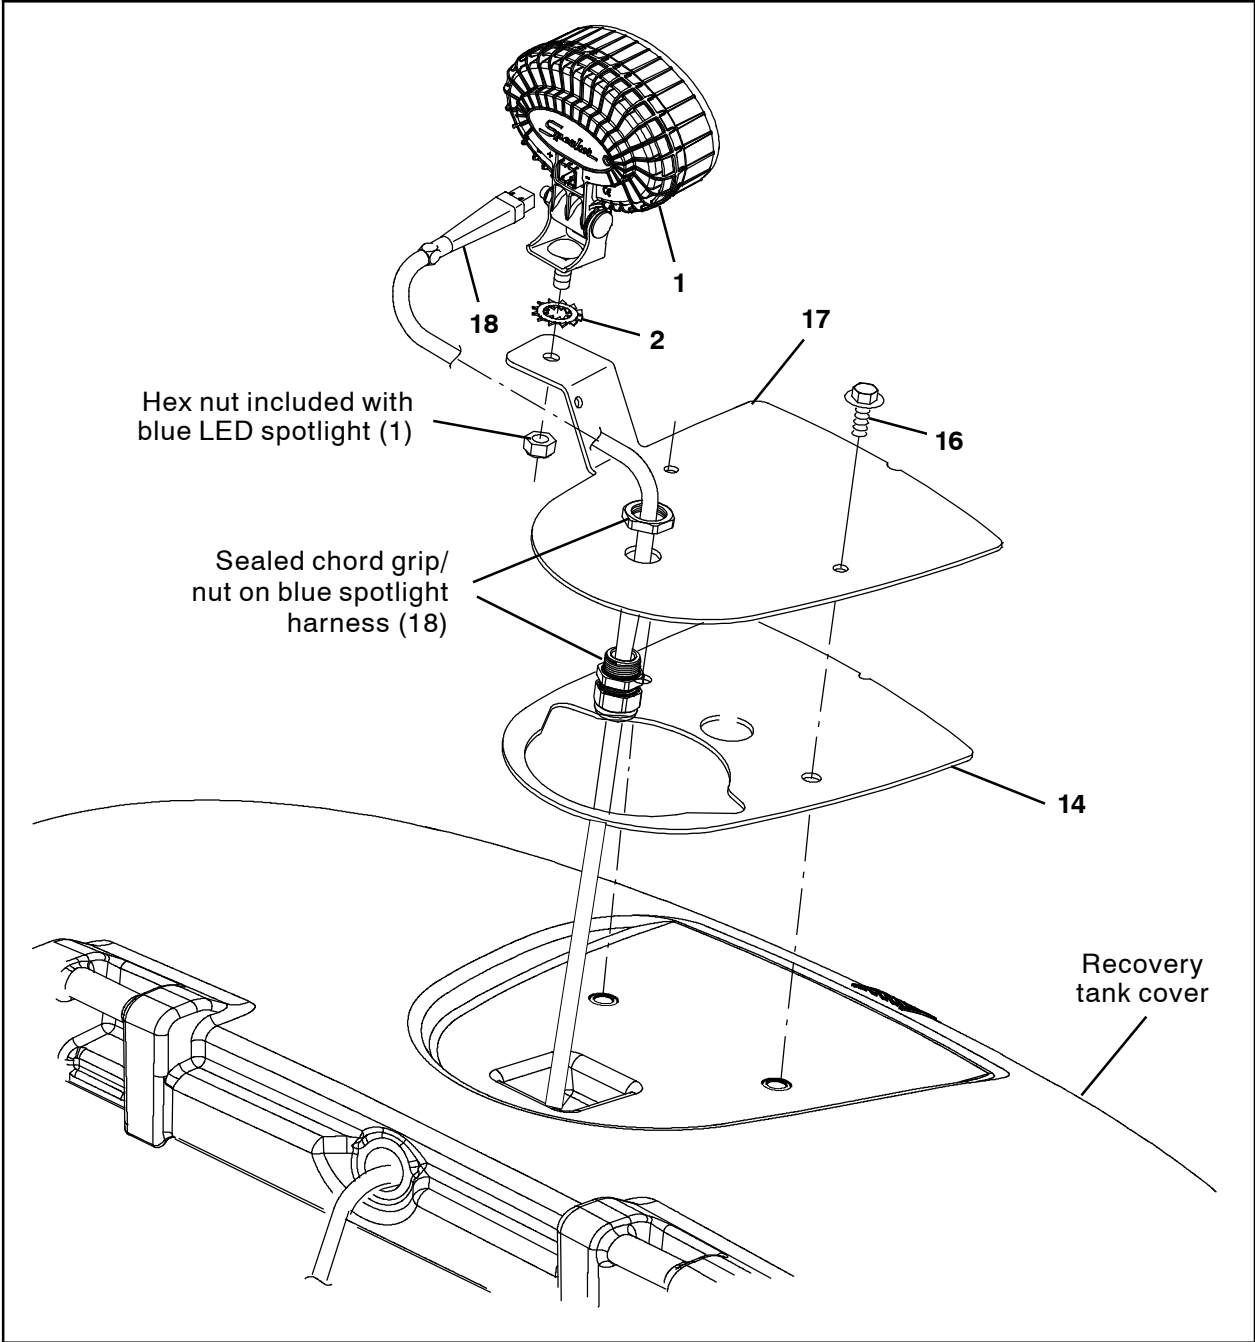
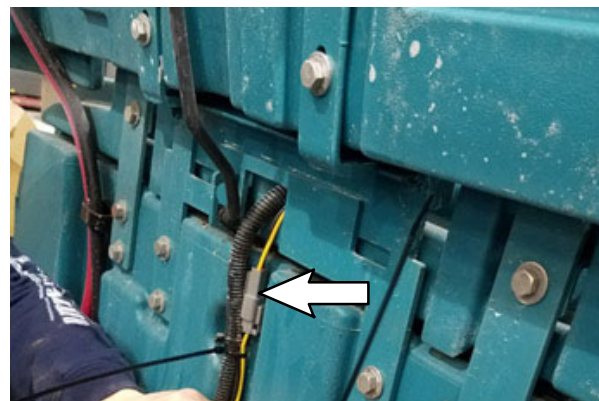
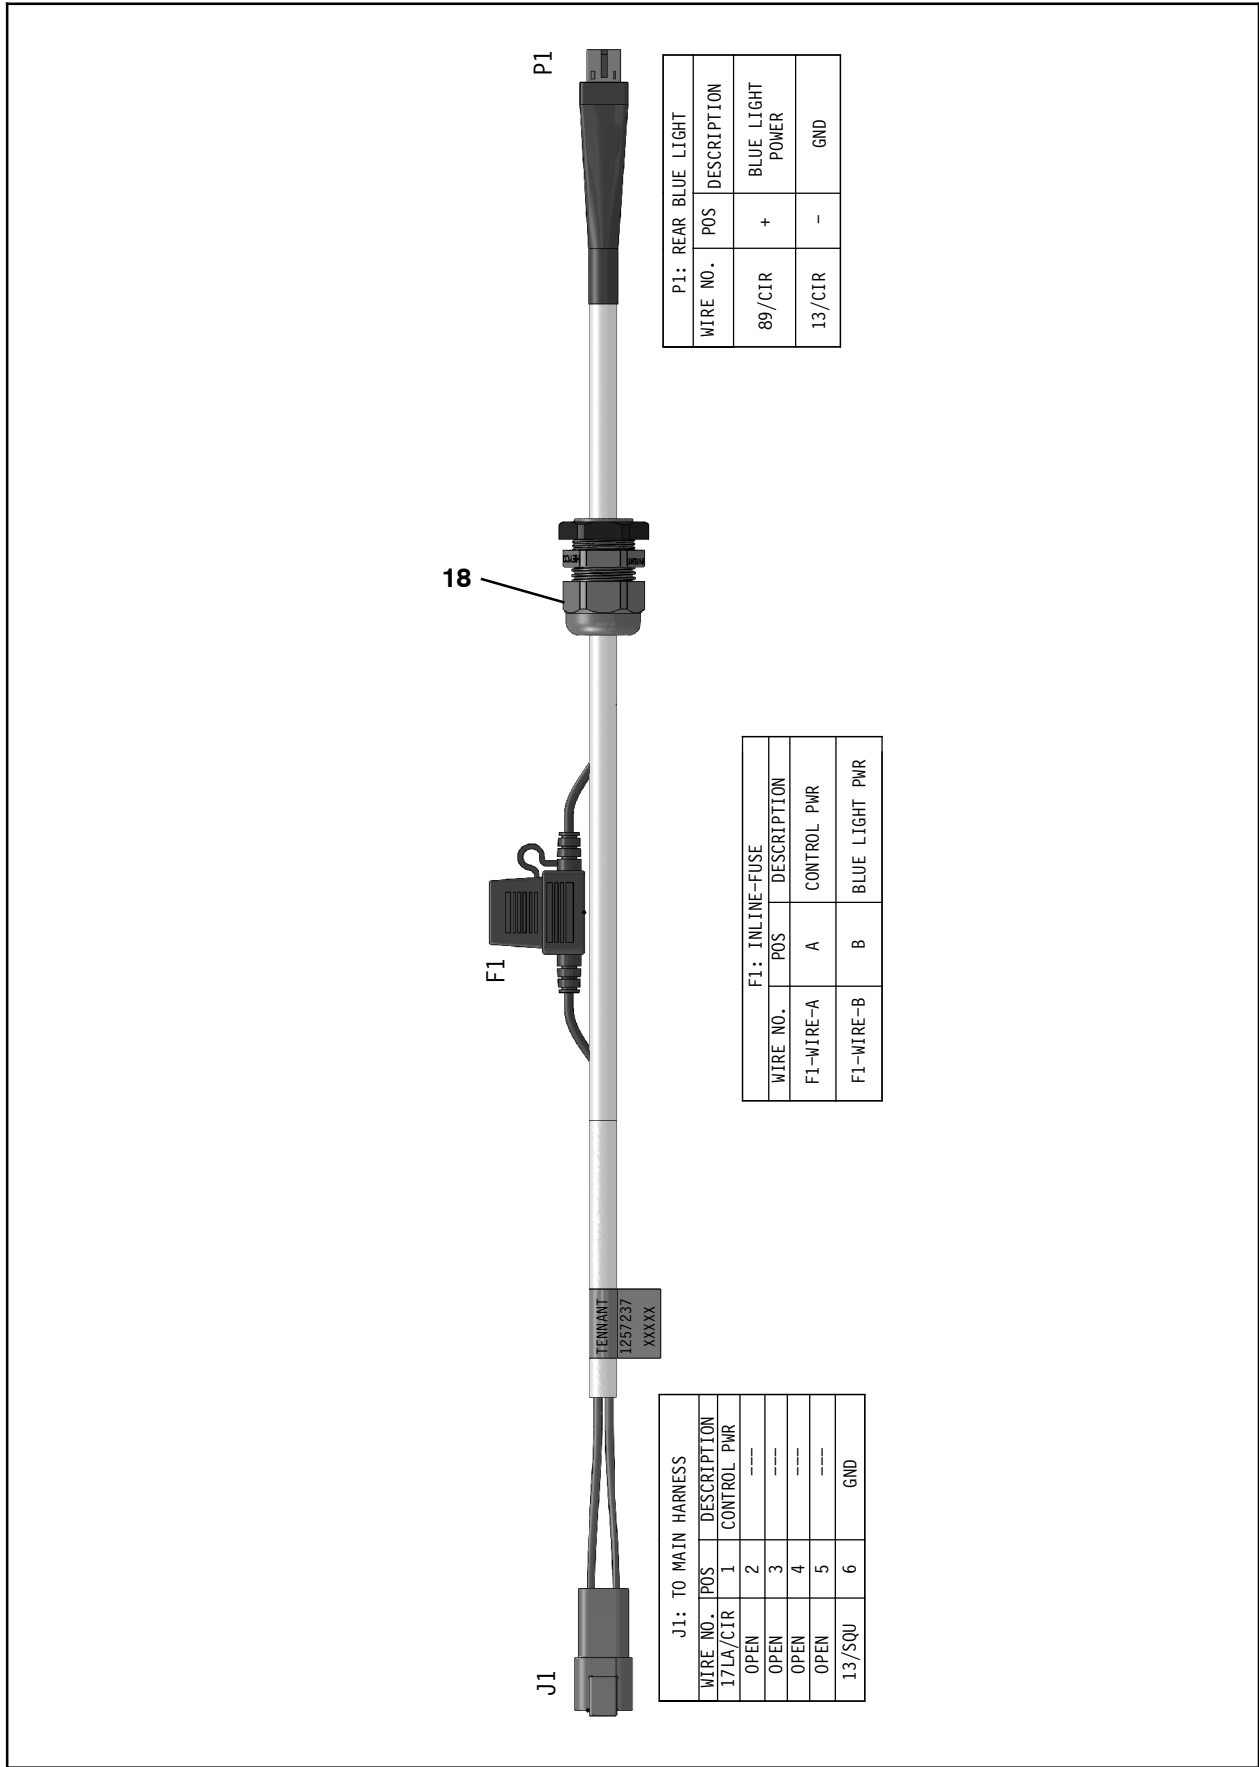

FIG. 22
FIG. 24
FIG. 25
19. Route the end of the blue spotlight rear harness (18) to be connected to the main wire harness flashing light connector through the channel from the top of the recovery tank cover and to the back of the battery compartment. (Fig. 22)
20. Remove the nut from the sealed chord grip on the blue spotlight rear harness (8). Set the nut aside. (Fig. 22)
21. Remove the backing from the module base gasket (14) and install the gasket onto the blue spotlight rear cover mounting bracket (17). (Fig. 22)
22. Route the end of the blue spotlight rear harness (18) through the hole in the blue spotlight rear cover mounting bracket (17). (Fig. 22)
23. Use the nut to secure the blue spotlight rear harness (18)/sealed chord grip to the blue spotlight rear cover mounting bracket (17). (Fig. 22/Fig. 25)
24. Use two SEMS M8 hex screws (16) to install the blue spotlight rear mounting bracket (17) onto the recovery tank cover. (Fig. 22)
25. Remove the hex nut included with the blue LED spotlight (1) from the light. (Fig. 22)
26. Use the hex nut removed from the blue LED spotlight (1) in the previous step and a lock washer (2) to install the blue LED spotlight onto the blue spotlight rear mounting bracket (17). (Fig. 22)
27. Connect the blue spotlight rear harness (18) to the blue LED spotlight (1). (Fig. 22/Fig. 25)
28. Connect the blue spotlight rear harness (18) to the main wire harness flashing light connector. (Fig. 24/Fig. 25)